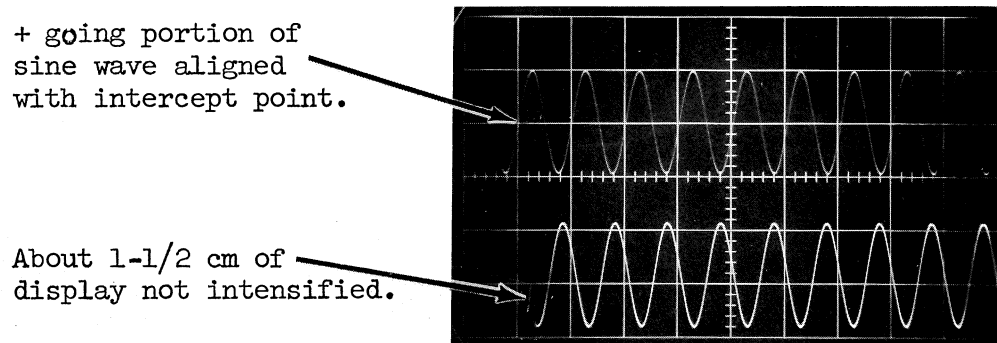

Figure 91
11. Set the DELAY TIME MULTIPLIER so the + (positive) going portion of a 10 MC sine wave on the delayed sweep, is aligned with the intercept point. Note the helidial reading. (See Fig. 91) Example: 0.99